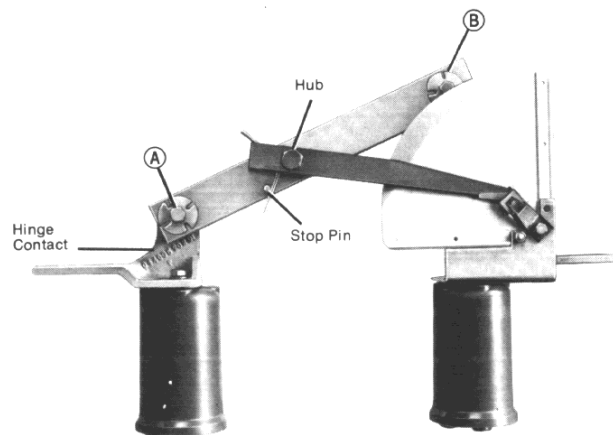

FIGURE 1 CONTACT PRESSURE ADJUSTMENT
Start with the switch in the closed position. Disconnect the connector link from the main shaft ("R" in the sketch on page 5). With the connecting links disconnected, tighten bolt "A" in figure 1 until the blades will be supported at the hinge in any position. Tighten bolt "B" in figure 1 until a force required to disconnect blades (applied at bolt "B") is as follows:
2. Disconnect insulating connector link by removing cotter pin and connecting pin on main blade. **Do not change length of the operating crank (Q).**
3. Remove main and interrupter blade assembly by removing the hinge bolt "A." (See assembly sketch, figure 1).
5. Close the main blade on the jaw. Tighten bolt "B" in figure 1 until a force required to disconnect blades (applied at bolt "B") is as follows: